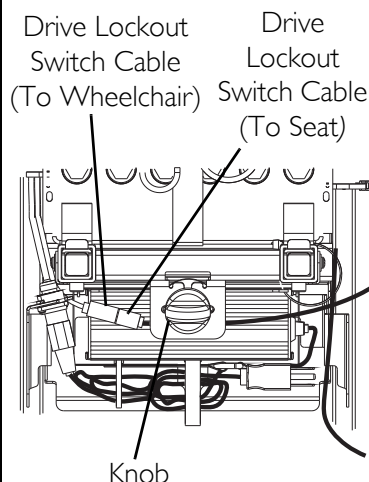

FIGURE 4.1 Removing/Installing or Tilting the Seat Assembly
NOTE: For this procedure, refer to FIGURE 4.1 on page 37.
- B. Disconnect the drive lockout switch cable located next to the charger (Detail "A" of FIGURE 4.1).
- B. Connect the drive lockout switch cable located next to the charger (Detail “A” of FIGURE 4.1).